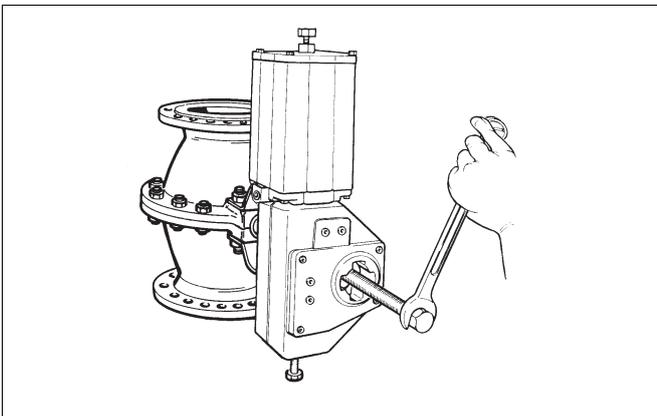

Fig. 9 Removing the actuator with the extractor
- Remove the actuator from the valve with an extractor that can be ordered from the manufacturer (See Chapter 'Tools'). See Figure 9.